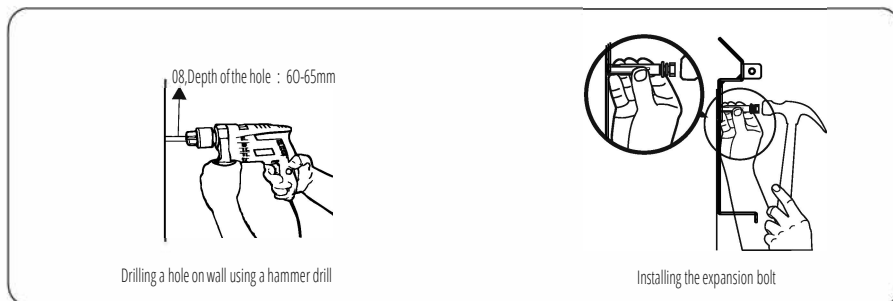

Figure 4.12 Drilling a hole and installing expansion bolts (unit: mm)
Step 4 Drill holes using a hammer drill and install expansion bolts, as shown in Figure 4.12.